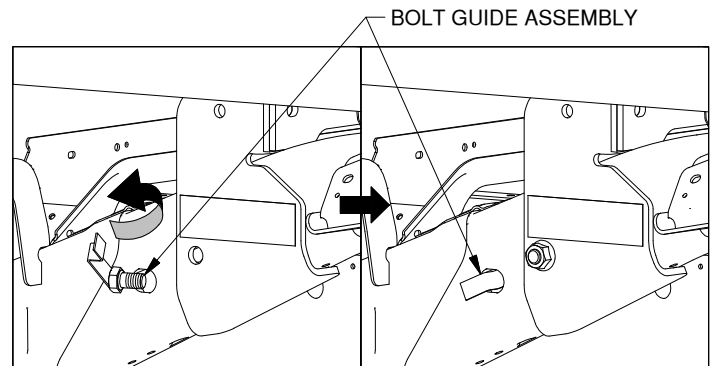

Figure F2: Installing bolt guide assembly, looking at driver side frame.
- 4. Secure side plate.** Place one of the bolt guide assemblies (bolt first) through the larger oval hole just in front of the side plate, twisting it around and back out through the smaller hole in the frame and side plate, see Figure F2. Use the tab on the end of the bolt guide assembly to hold in place while a 5/8" flange nut is installed.